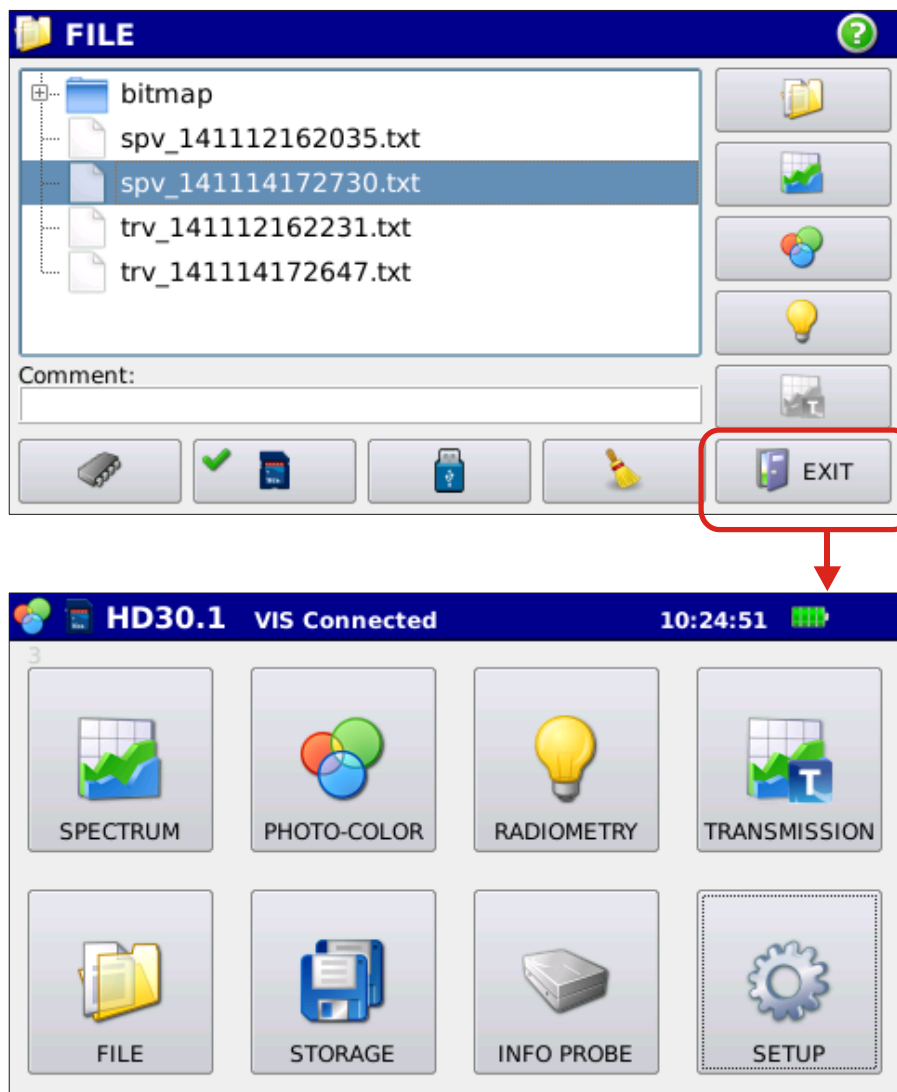

Fig. 4.15: returning to the main menu from stored measurements management menu
4.7 Press EXIT in the file handling window to return to the start-up screen (Fig. 4.15).